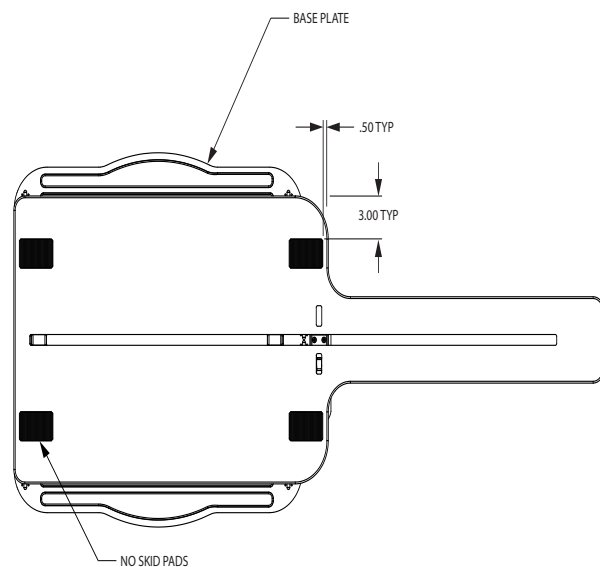

FIGURE 1
2.1.1. Remove the protective paper backing and apply the no-skid pads on the bottom of the base plate (Figure 1: No-skid Pad Location). Use the 1/8" thick ribbed no-skid Pads for carpeted floors. Use the 1/32" thick pads for smooth hard floors.